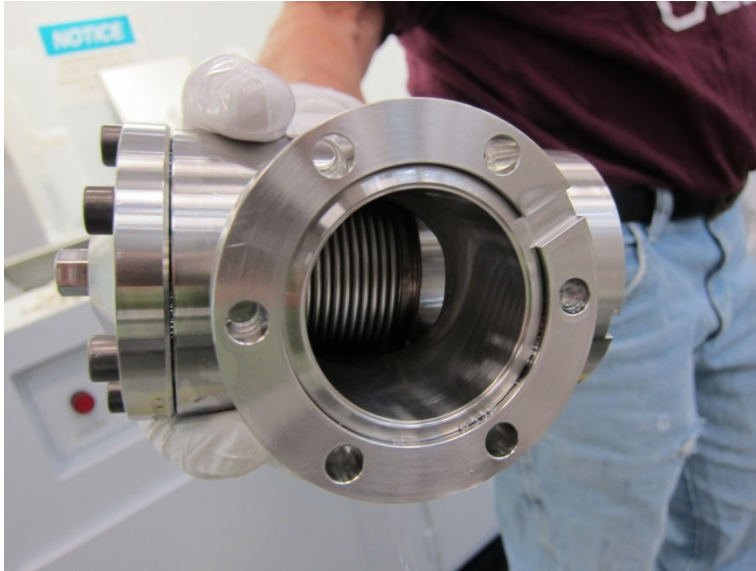

Figure 1
- Open valve up slightly, about a quarter inch gap looking from the port facing the bellows, as shown in Figure 1.